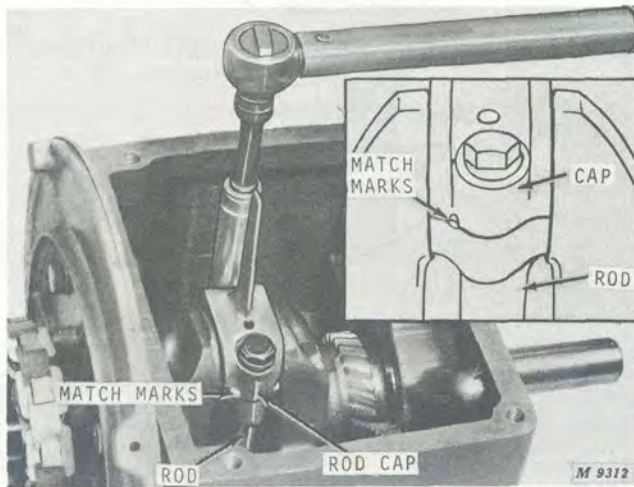

Fig. 50-Rod and Crankshaft Assembly
**NOTE:** Be sure match marks on connecting rod and rod cap are aligned and face flywheel side of engine, Figure 50.
After piston assembly is installed, place block on end and oil connecting rod and crank pin. Be sure that match marks on connecting rod and cap, Figure 50, are aligned and face flywheel side of engine.